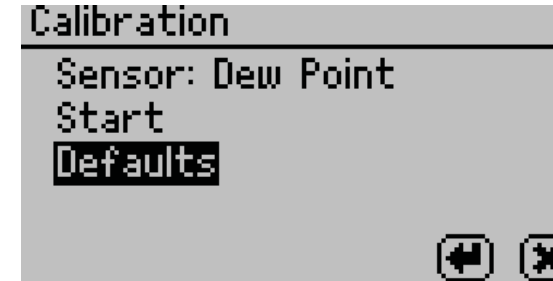

Figure 58 Calibration screen with Defaults selected
3. Select **Defaults** to access the Restore Factory Defaults routine (Figure 58). Select **CANCEL** to return to the Configuration tab.